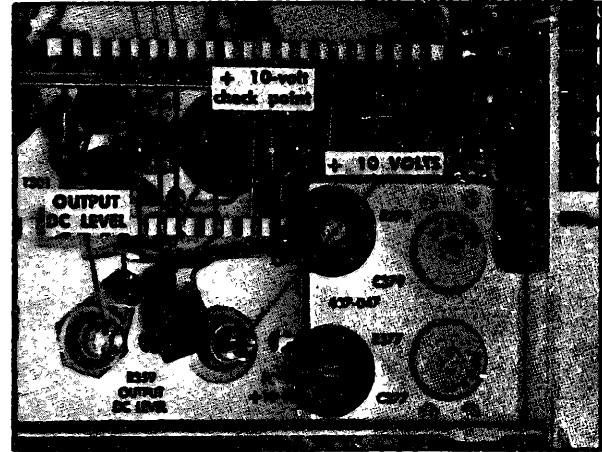

Fig 7-5 Location of Output DC Level and +10 Volts adjustments and +10 volt test point
- f. Adjust-OUTPUT DC LEVEL of the Type 1A2 for a meter reading of exactly 67.5% of the measured +100-volt supply See Fig 7-5 for location
- b. Connect the DC voltmeter between the +10-volt test point and ground See Fig 7-5 for location